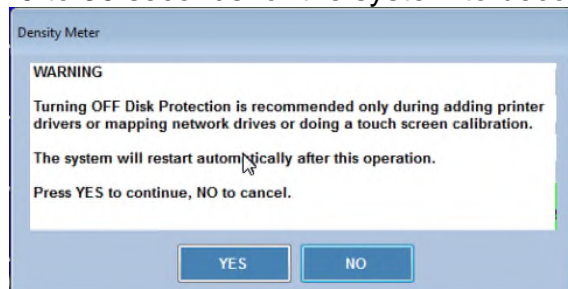

Figure 10.6 – Turn Off Disk Protection - Confirmation Dialog
6. You will see the warning message shown in Figure 10.6 below. Click the **Yes** button. The AlcoTest™ system will automatically restart. Please allow 20 to 30 seconds for the system to become operational again.